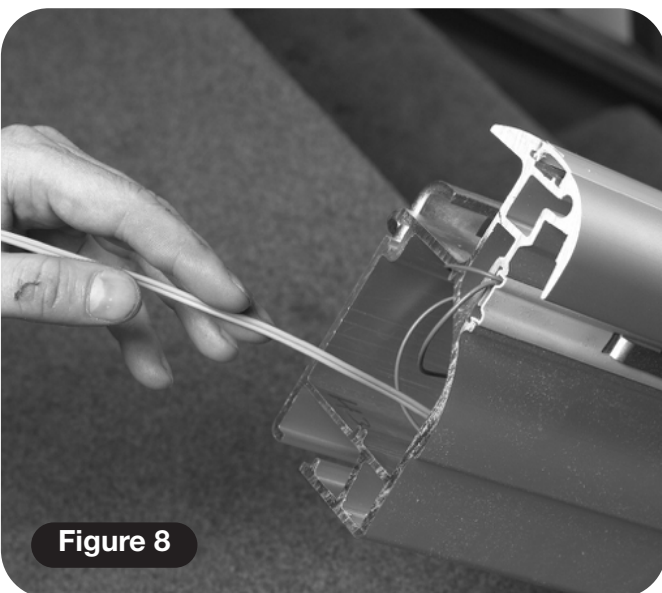

Figure 8
- 6 Feed the twin core grey cable through the large hole in the assembled track (**Figure 8**).